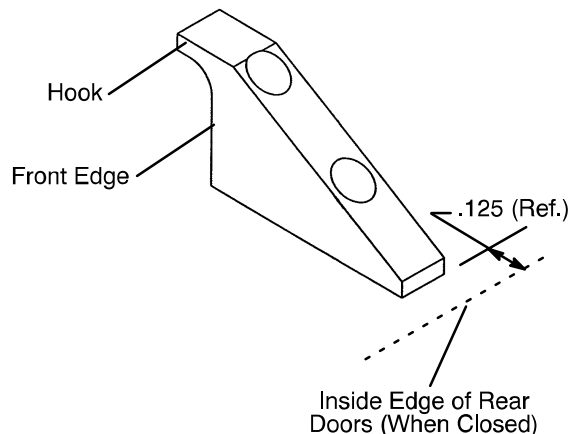

Figure 4 – Safety Hook
3. Center the safety hook (Figure 4) on the cot safety bar. Be sure the hook is facing the front of the vehicle.